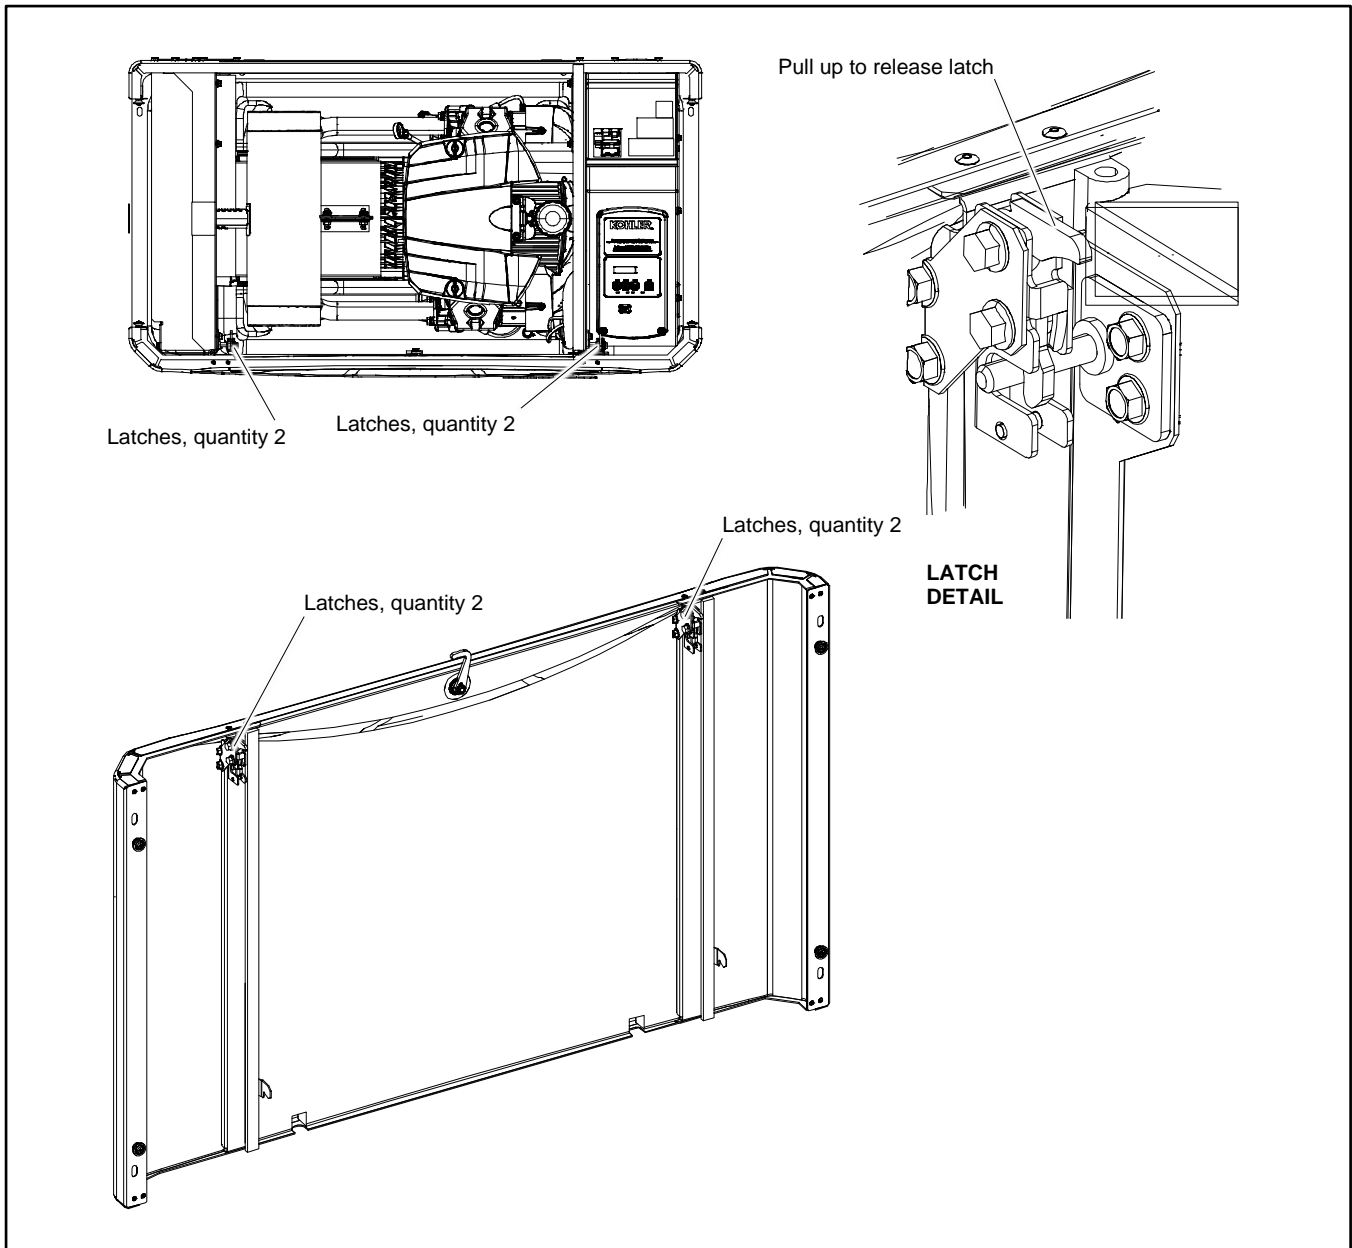

Figure 114 Right Side Panel
- a. Locate two latches at the top of the panel. See Figure 114.